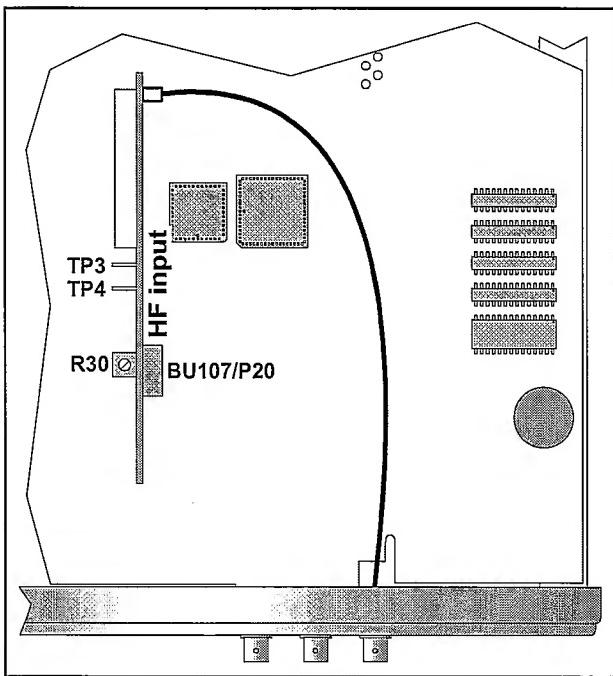

Figure 6-11 Test points and trimmers for the 1.3 GHz HF-input.
- Turn the potentiometer R30 fully counterclockwise. See Figure 6-11.